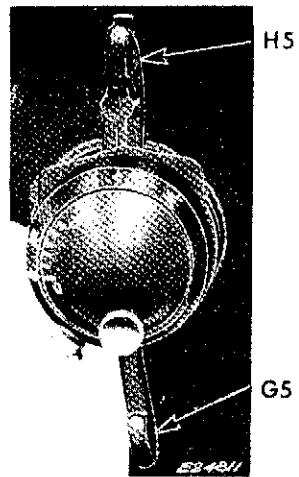
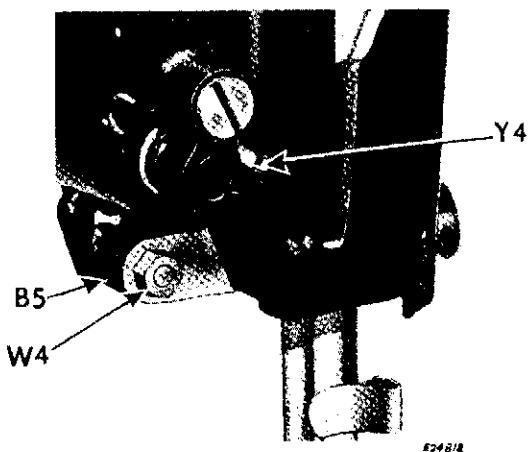
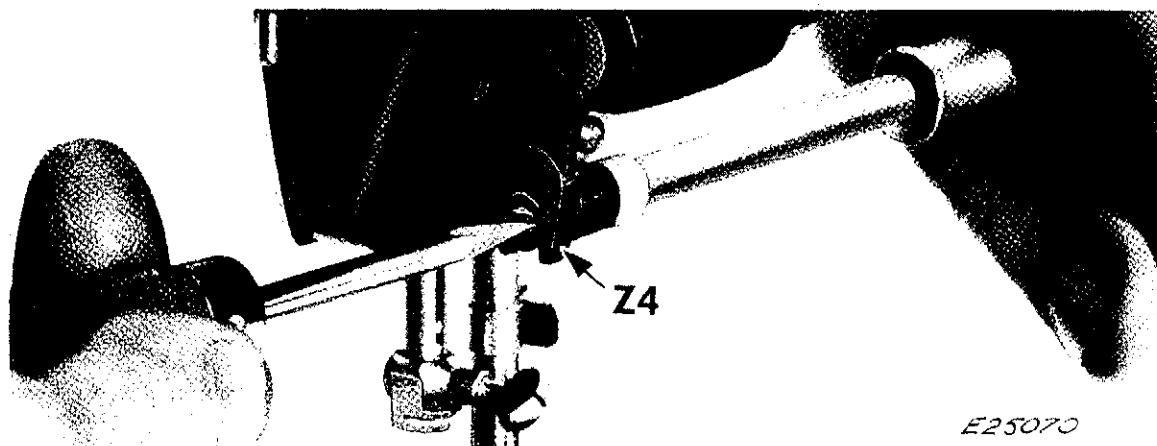

Fig. 78. Straight
Fig. 79. Major Needle Bar Holder Adjustment on Needle Vibrator Lever
Fig. 80. Correct Location of Eccentric Stud
**NOTE:** After coordinating the bight controls as instructed on pages 58 to 61 and 91 to 95, needle bar holder **B5**, Fig. 79 should be adjusted so that when the machine is set for straight stitching at the central position as shown in Figs. 78 and 202, the needle will rise and fall centrally in the small needle hole of the throat plate designed for straight stitching and midway between the long and short toes of the straight-stitching presser foot.
**To correct location of eccentric stud,** loosen nut **W4**, Fig. 79 with 1/4 inch box wrench, Serial No. 187940, while holding eccentric stud with a screwdriver as shown in Fig. 80.
**To make a major adjustment for sidewise position of needle,** remove presser foot, move bight control lever **G5** to zero bight and position lever **H5** to its highest (central) position as shown in Fig. 78. Remove zigzag throat plate and replace with straight-stitching throat plate. Loosen clamping screw **Y4**, Fig. 79 and move needle bar holder as required to centralize needle sidewise in needle hole of throat plate, then securely tighten clamping screw **Y4**, replace straight-stitching presser foot, and recheck.
Then securely tighten nut **W4** with the wrench while simultaneously holding eccentric stud with a screwdriver to keep the stud from turning away from its true position as shown in Fig. 80.
While slowly turning hand wheel over toward the operator, watch the movement of the small needle vibrator lever fork **Z4**, **Fig. 80**.